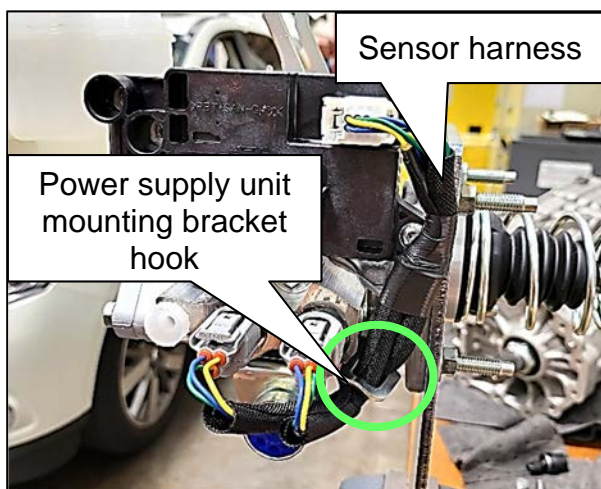
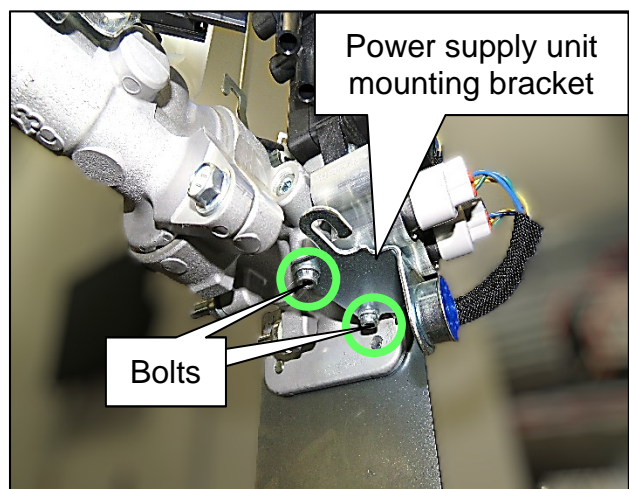

Figure 19
Figure 20
18. Install the sensor harness on the hook of the new power supply unit mounting bracket (Figure 19), and then install the bracket to the hydraulic brake booster using two (2) new bolts from the parts kit (Figure 20).